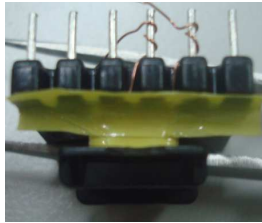

Fig. 1
- [1] Put protection tape to prevent the primary & secondary wires touching each other before W4 wind. Refer to figure 1.
W4 绕线前贴一块保护胶带防止初级与次级的线相碰.如图 1 所示.